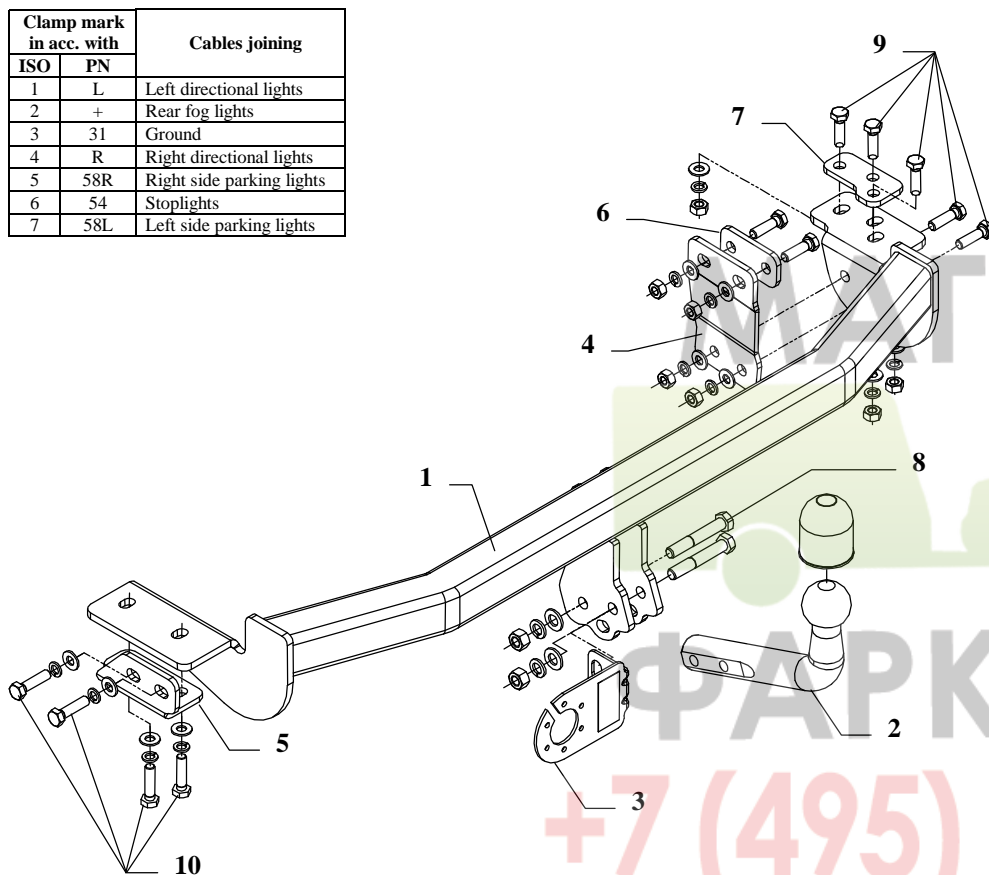

Fig. 1
6. Put main bar of the towbar (pos. 1) to chassis and fix as shown in the fig. 1, use angle element – pos. 5 (left side) and elements pos. 4, 6 and 7 (right side).
8. Fix tow-ball (pos. 2) and socket plate (pos. 3) using bolts M12x75mm (pos. 8) from towbar accessories.